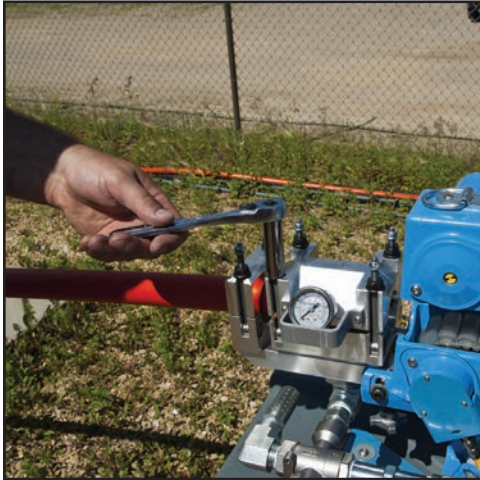
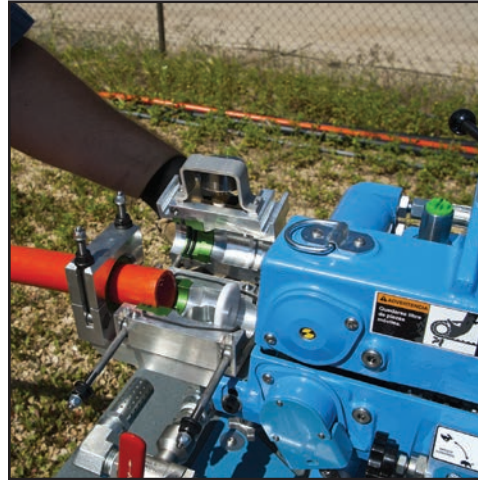

Figure 20. Loosen Air Block Assembly
Figure 21. Open Conduit Clamp Cover & Air Block Cover
1. Loosen the 6 nuts on the Air Block assembly (Figure 20). Open the Conduit Clamp Cover and Air Block Cover (Figure 21).